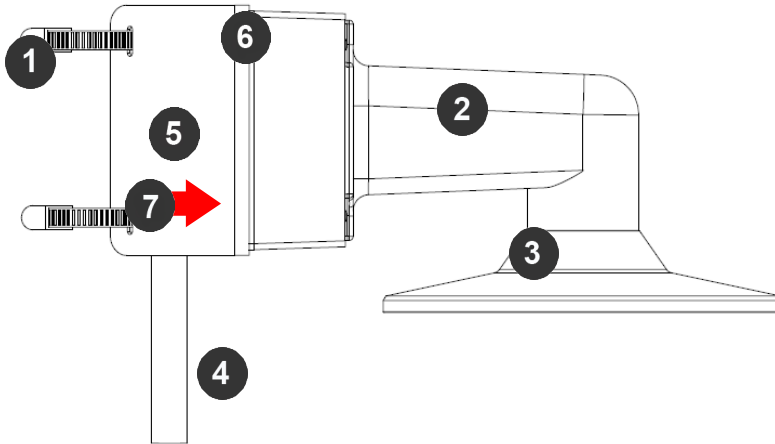

Figure 2: Attach wall mount adapter to pole mount adapter
6. Attach the Wall Mount Adapter (SV-WMJB) to the Pole Mount Adapter (AV-PMA) as shown in Figure 2.